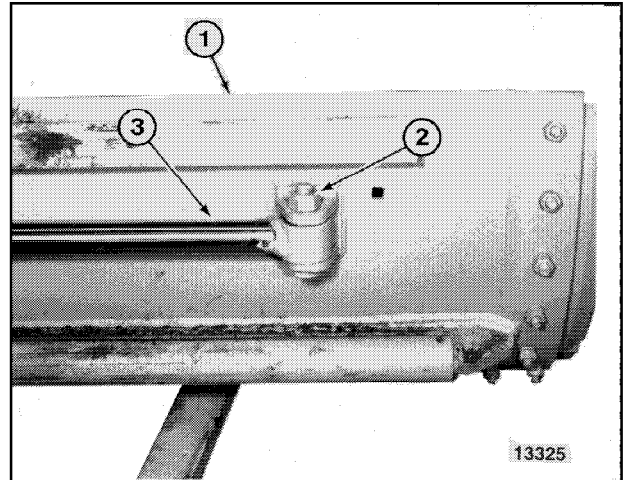

Figure 20
1. Fully extend moldboard side shift cylinder, if possible. Rest moldboard (1, Figure 20) solidly on blocking.